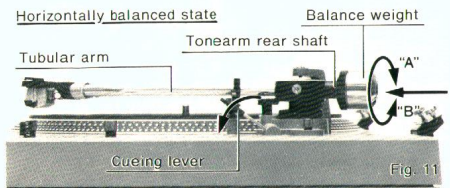

Fig. 11
③ Adjustments of the horizontal "0" balance and the stylus pressure
1. Insert the balance weight onto the rear shaft of the tonearm. (See Fig. 11)
4. Turn the entire balance weight clockwise (indicated by the arrow "A") or counterclockwise (indicated by the arrow "B") until the tonearm is approximately balanced horizontally. (See Fig. 11)
3. Ensure that the cueing lever is in the lowered position as shown in Fig. 11.